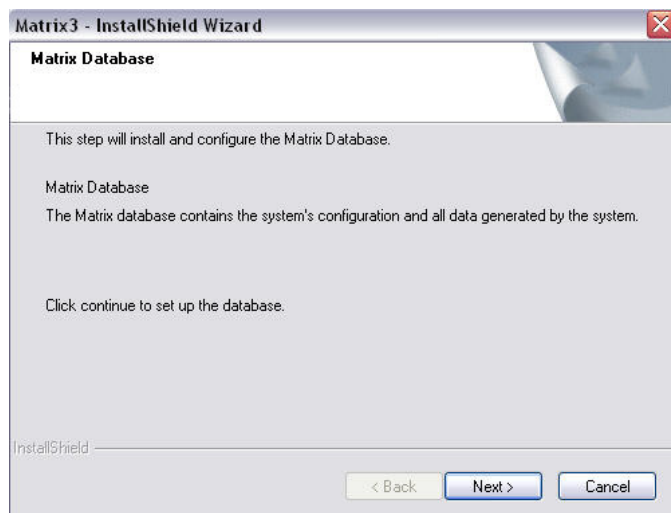

FIG. 19
12. When the Matrix Database setup screen shown in FIG. 19 displays, select NEXT to start the Database setup.